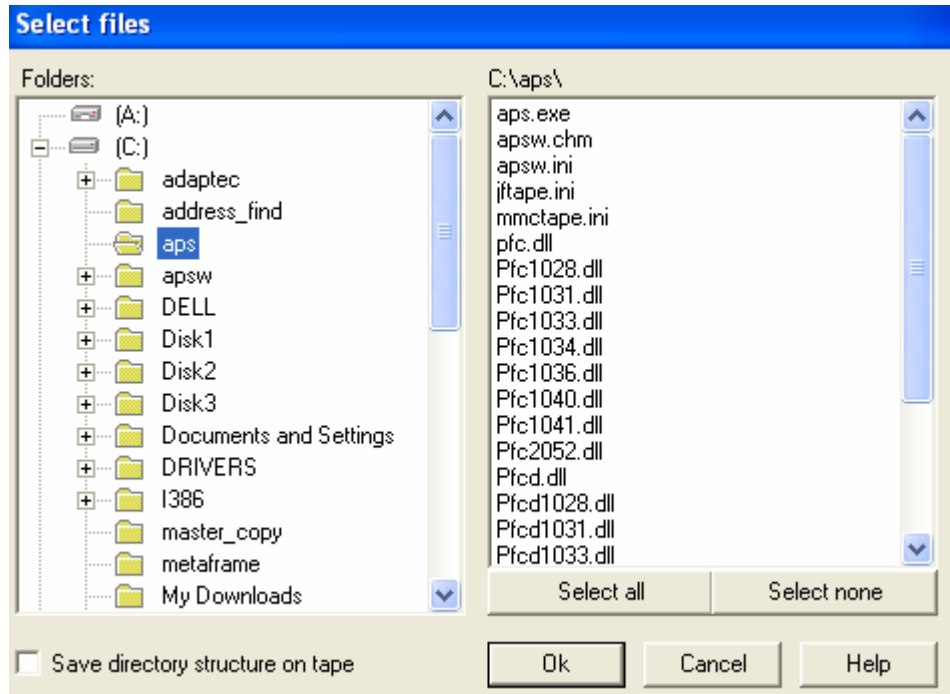

Figure 18: Select File Dialog Box
- If the input unit is a disk file drive, as described in Section 2.1 , the Save path scroll box and Browse button are enabled. The Save path scroll box can be set to save the file paths in the database, in a user label on the tape, in both places or in neither. The Browse button must be pressed to select the files to copy using the Select files dialog box. The box is shown in Figure 18: Select File Dialog Box.